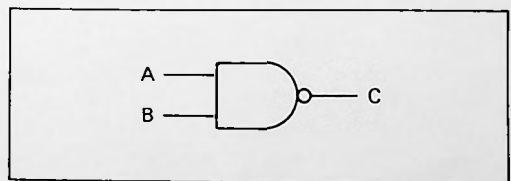

Figure C-3. Nand Logic Symbol.
- c. **Nand.** As shown in Figure C-3, the Nand-gate output (C) is HIGH (+5 Vdc) when any or all inputs (in this case A or B) are LOW (GRD). When all inputs are HIGH (+5 Vdc), the Nand-gate output (C) is LOW (GRD). Therefore, a LOW (GRD) input controls the Nand-gate. See Nand Truth Table, Table C-3.